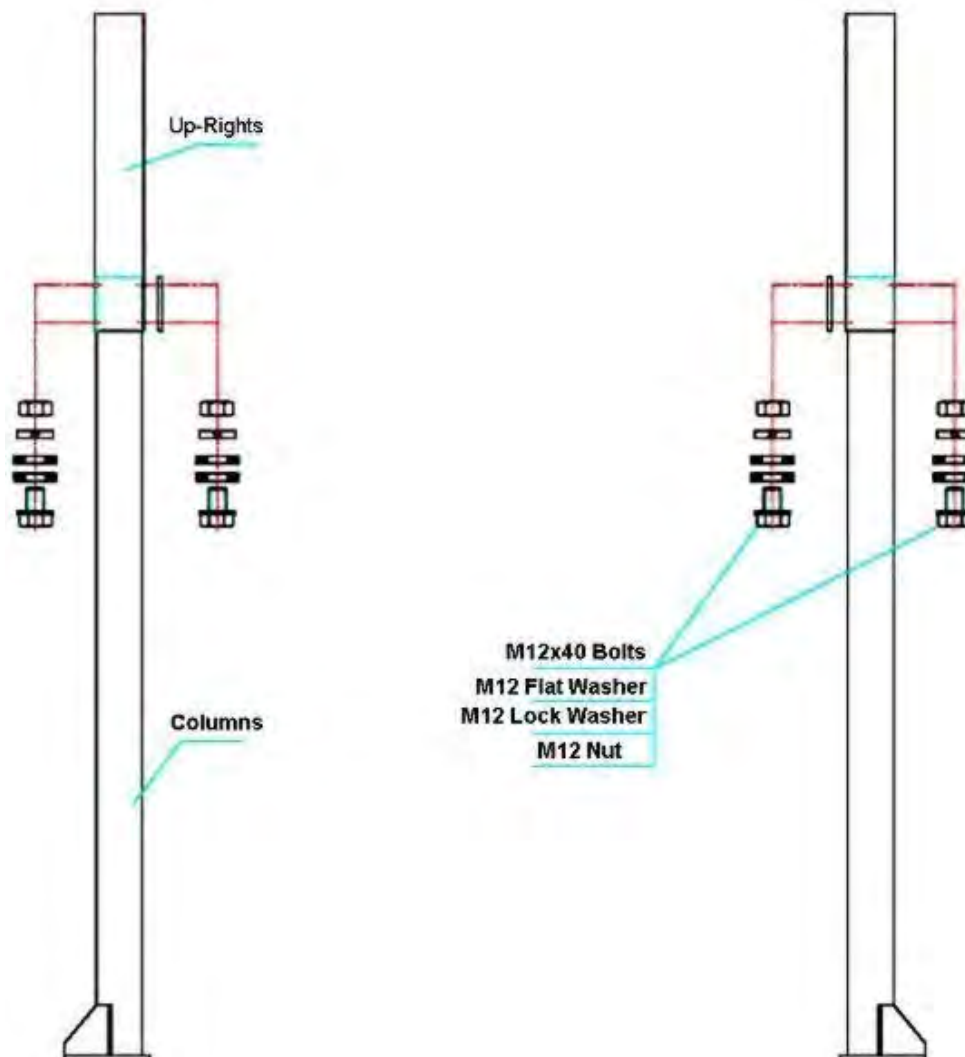

Figure 2-2. Overhead Beam and Upright Assembly
STEP 3: Unbolt the column from the shipping brackets. Unbolt the up-rights from the columns and assemble it to the column as shown in figure 2-2.